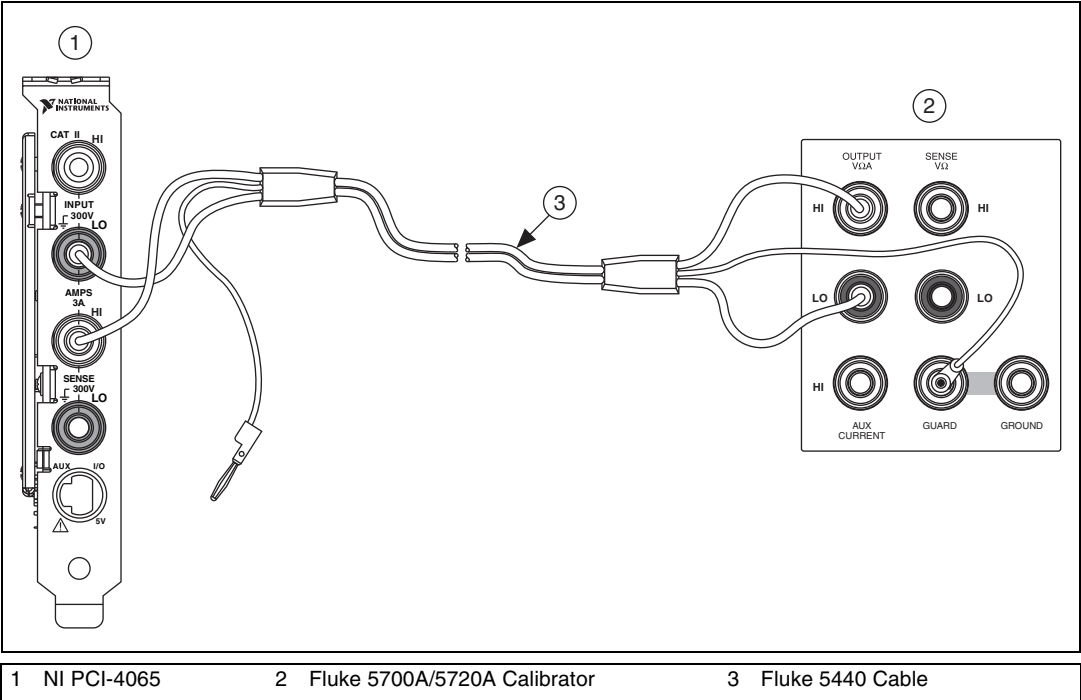
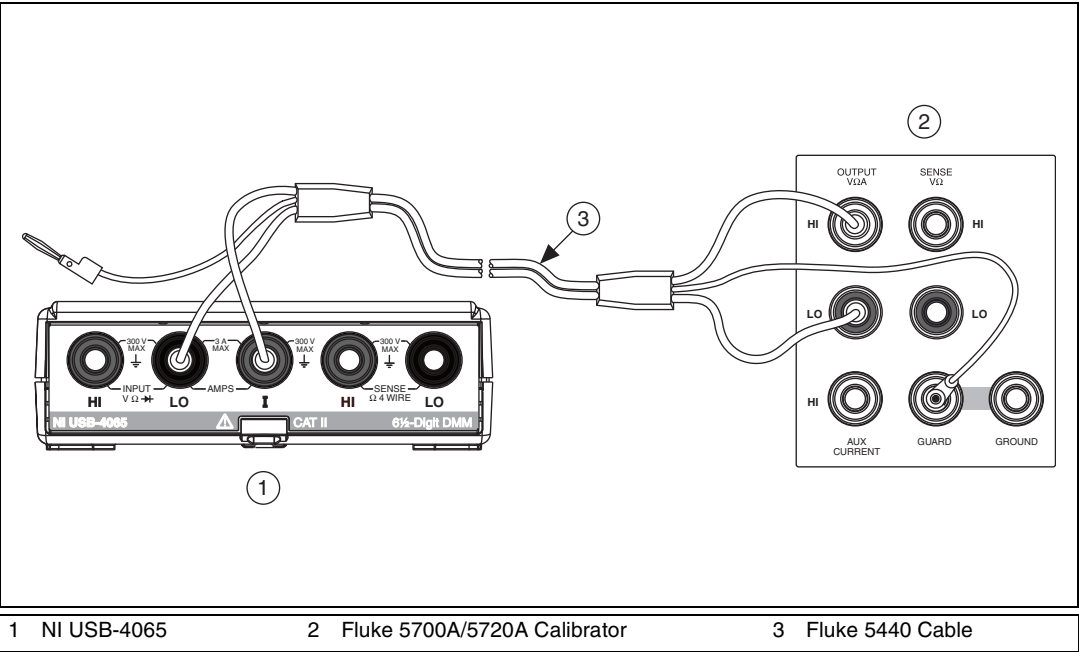

Figure 7. NI PXI/PCI/PCIe Cable Connections for Current
Figure 8. USB Cable Connections for Current
2. Connect the NI 4065 and the Fluke 5700A/5720A calibrator using the Fluke 5440 cable, as shown in Figure 7 for the NI PXI/PCI/PCIe-4065 and Figure 8 for the NI USB-4065. Table 12 lists the cable connections.
2. Connect the NI 4065 and the Fluke 5700A/5720A calibrator using the Fluke 5440 cable, as shown in Figure 7. Table 12 lists the cable connections.